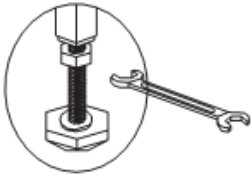
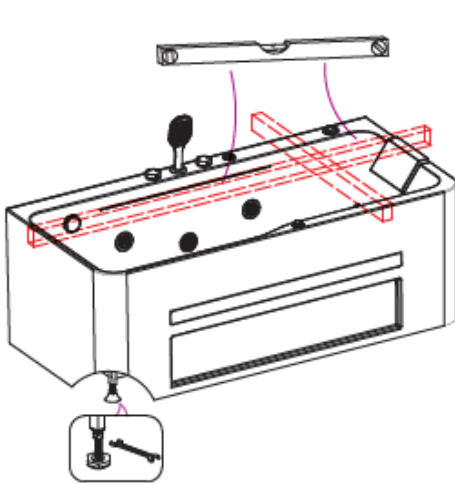

Fig. 1
Fig. 6
**2 Adjust the bathtub levelness** (the water at the bottom of the bathtub cannot be completely drained if the bathtub is not well-leveled). Put the bathtub in the installation position. In case of uneven ground, measure with a level bar (as shown in Figure 6), adjust the bathtub feet to keep the bathtub in a level position, then tighten the foot-adjusting screws (as shown in Figure 1).
Connect multi-spray hand shower (as shown in Figure 6).